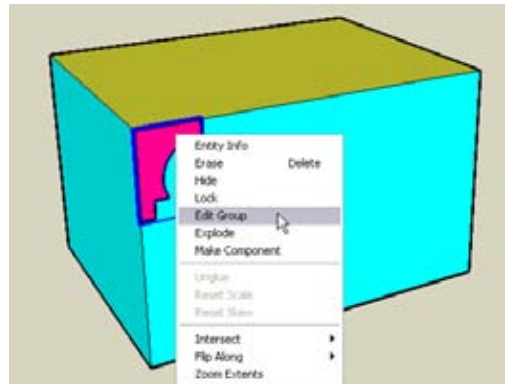

Figure 2-26
4. Right-click on the Follow Me face (now a group), and choose Edit Group from the pop-up menu (Figure 2-26).